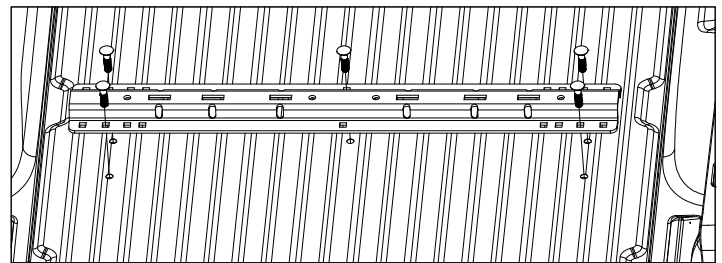

Figure C1: View looking into truck bed from rear of truck.
- 1a. Install the rear mounting rail.** Re-position the rear mounting rail over the drilled 9/16" holes in the bed. Install a 1/2" Carriage bolt through the mounting rail into each of the five drilled holes, as shown in figure C1.